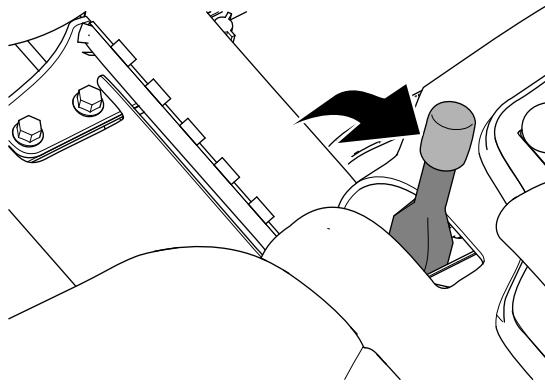

Figure 33
- Engage the parking brake (Figure 33).